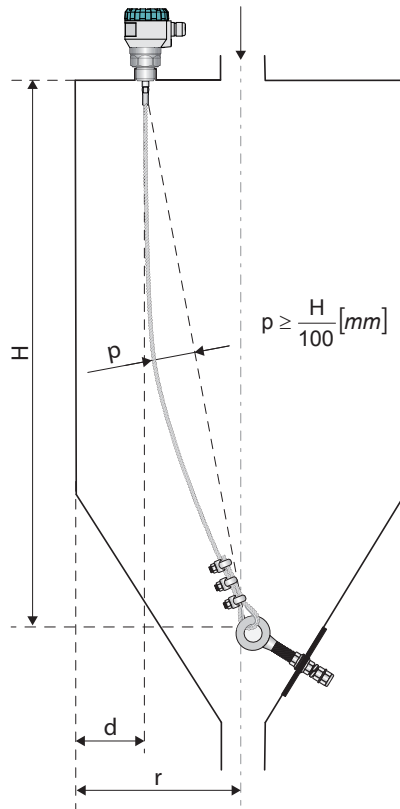

Fig. 20: Recommended installation of the level meter with anchoring on the opposite side of the silo
- **For applications with bulk solids** it is appropriate to anchor the rope electrodes at the opposite sides of the tank (silo) so that the rope is sagging, see Fig.20. Minimum recommended sag is $p = H/100$ [mm]. This installation increases the resistance of the rope to tension load.
| opposite side of the silo (Fig. 20) | any |